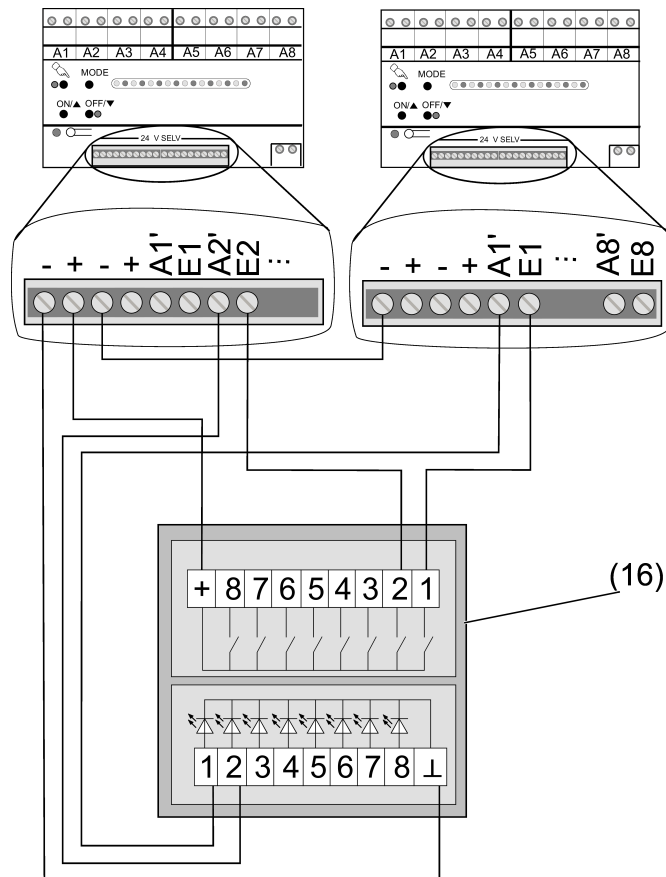

Figure 8: Connection example with a 24 V push-button sensor to two relay stations
- Connect the 24 V push-button sensor according to the connection example. Here, channel 1 of the 24 V push-button sensor switches load output A1 of the right relay station and channel 2 switches load output A2 of the left relay station (see figure 8).